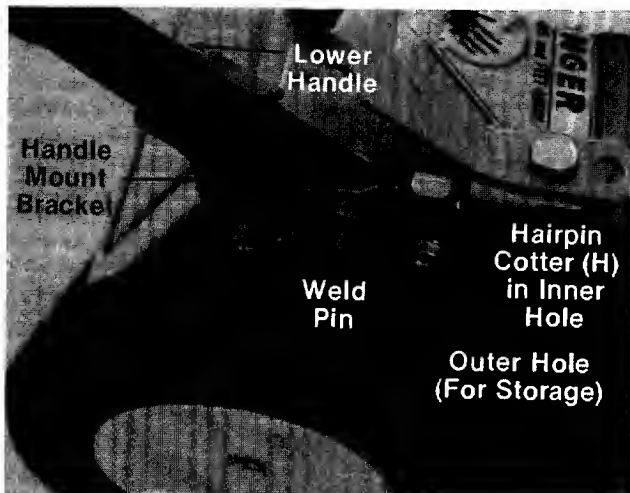

FIGURE 2.
- A (2) Curved Head Carriage Bolts
- B (2) Hand Knobs (Folding Handle Only)
- C (2) Lock Washers 5/16" I.D. (Non-Folding Handle Only)
- D (2) Hex Nuts 5/16-18 Thread (Non-Folding Handle Only)
- E (2) Cable Ties
- F (1) Hex Bolt 1/4-20 x 1.50" Long
- G (1) Hex Lock Nut 1/4-20 Thread
- H (2) Hairpin Cotter
- ← 3. Fasten lower handle in position over weld pins in handle mount brackets on deck. Secure with hairpin cotter (H) in inner hole on weld pin. See figure 2.